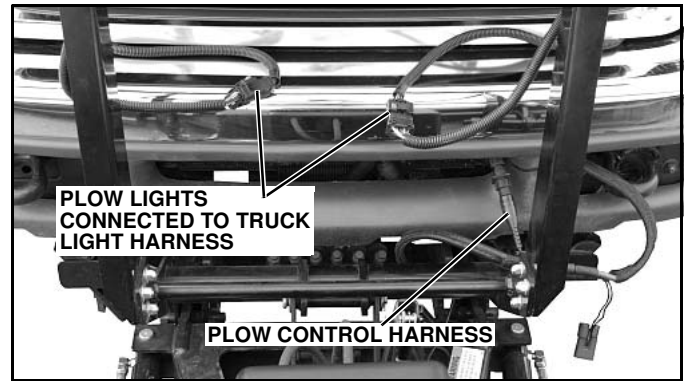

Figure 1-24
8. Plug plow light connectors into mating connectors on truck light harness (See Figure 1-24).